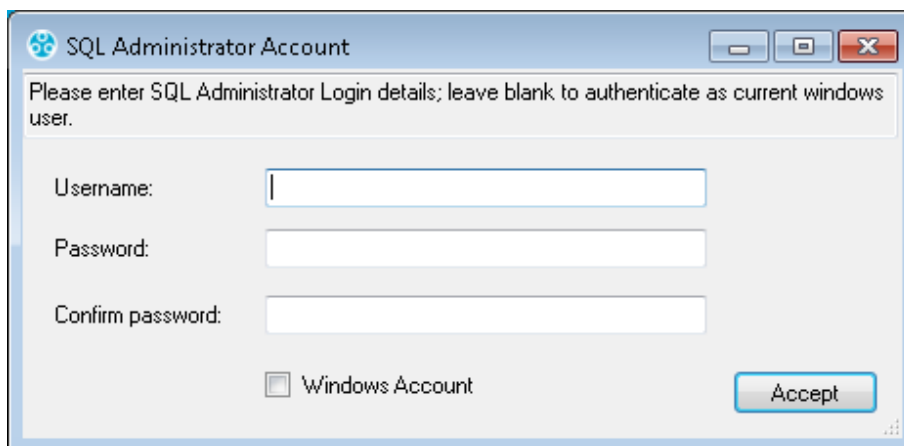

**Figure 120**
See Figure 120:
1. Click **New Database** on the main dialog box. Figure 120 above.
7. In the **EMS Configuration Ver x.x.x.x** window (see Figure 120 above), click on the **Sensor Models** button.
9. In the **EMS Configuration Ver x.x.x.x** window (see Figure 120 above), click on the **HW Services** button.